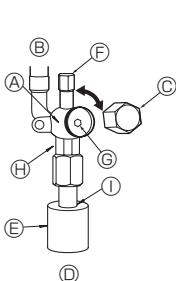

Fig. 4-6
- ② Make sure that the stop valve is open completely and rotate the cap back to its original position.
- (2) Liquid side (Fig. 4-6)
- ① Remove the cap and turn the valve rod counterclockwise as far as it will go with the use of a 4 mm hexagonal wrench. Stop turning when it hits the stopper.